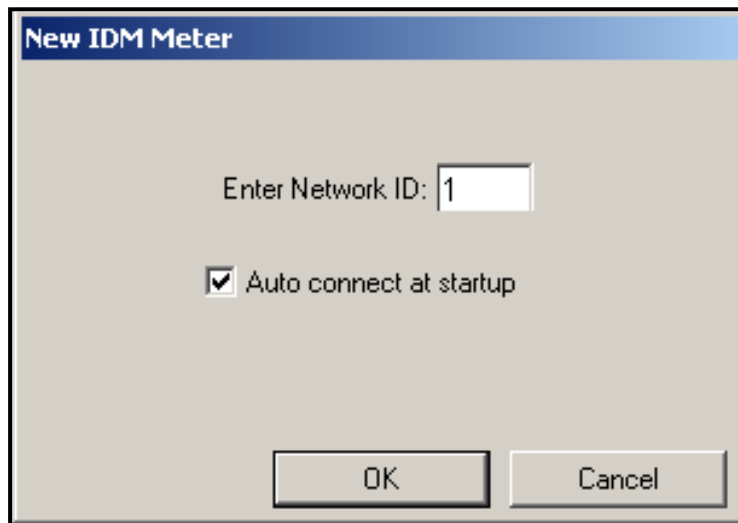

Figure 36: *New IDM Meter* Screen
4. The *New IDM Meter* screen (shown in Figure 36) opens. Enter the Network ID number for the meter, and click [OK].